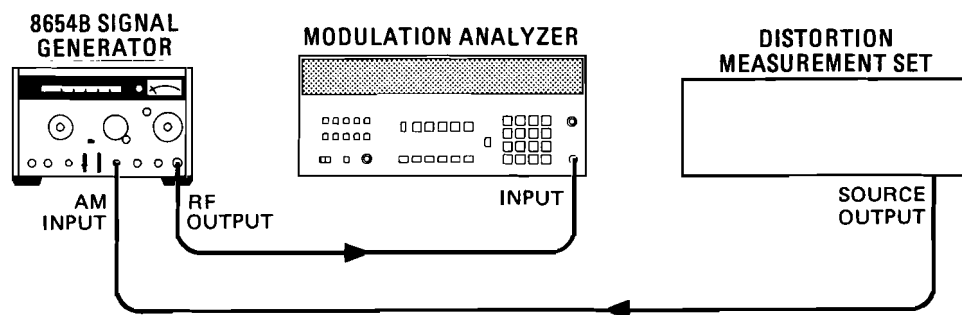

Figure A1-1. Detector Bias and AM Distortion Adjustment Setup
3. Connect the equipment as shown in Figure A1-1 after setting the Signal Generator controls as follows: